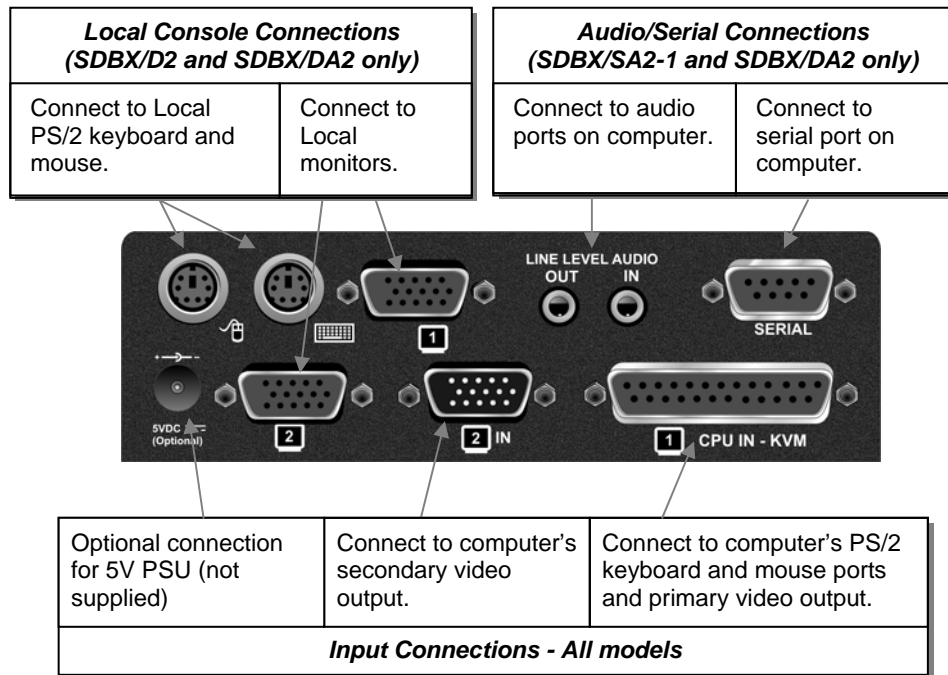

Figure 4 Local Unit - rear view
2. Using the supplied CPU KVM cable(s), connect the keyboard, monitor(s) and mouse connectors on the computer (or KVM switch) to the corresponding connectors on the Local Unit as shown in Figure 4.